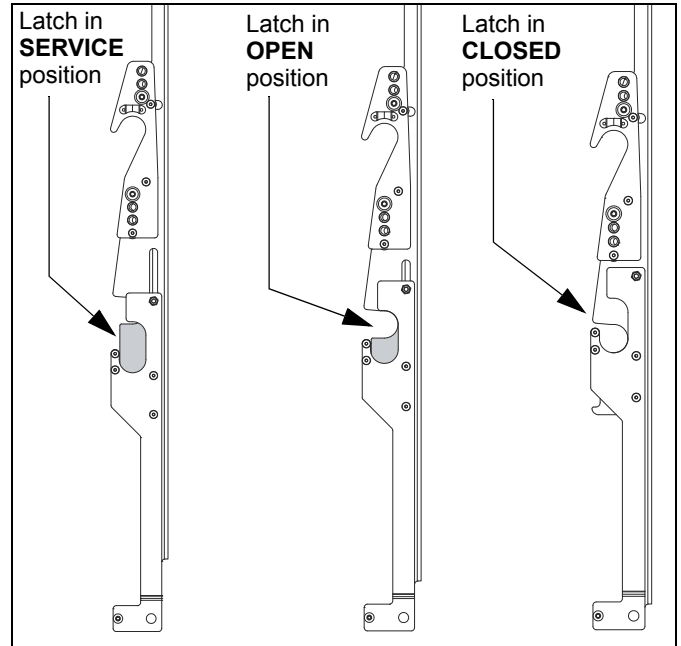

Figure 11
**IMPORTANT ! : (XSM1U Only)** Completely extend bottom of interface brackets (by pulling downward) to set interface brackets in **SERVICE** position before hanging on top rail. (See Figure 11)
- **XSM1U** - Open latch by pushing bottom of interface bracket up to **OPEN** position, latching interface brackets to lower rail, and then push up from bottom of interface bracket again until the interface bracket is in **CLOSED** position. (See Figure 11) and (See Figure 12)
1. With interface brackets in **CLOSED** position (See Figure 11), remove two fasteners holding tilt compensation in place on each interface bracket (V and W). (See Figure 17)